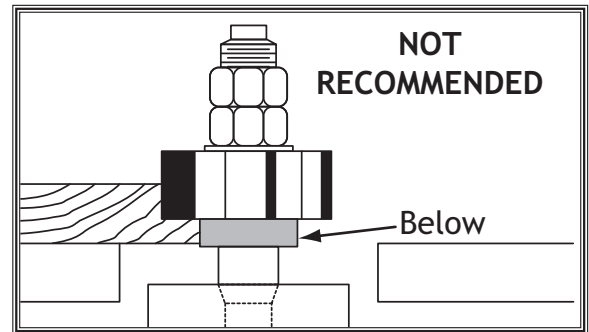

Figure 23. Rub collar mounted below cutter.
- **BELOW THE CUTTER** as shown in **Figure 23**. This setup allows the cut to be viewed by the operator; however, it is also the most dangerous because the operator is exposed to the moving cutter.